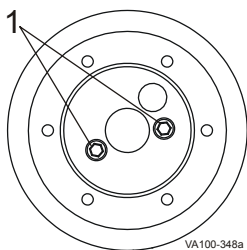
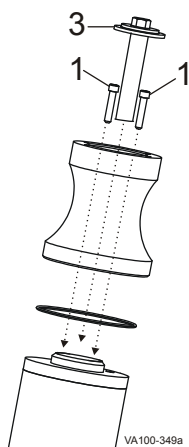

Figure 6: Top View of Adapter Fastening Cap Screws
Figure 7: Installation of Cap Screws and New Stem Top
3. Fasten the adapter in place with two cap screws (Figure 6 and Figure 7, item 1).
4. Install the range spring stem (Figure 7, item 3) required for the Moore Positioner.
5. Place the range spring (Figure 8, item 2) on top of the range spring stem (Figure 7, item 3).